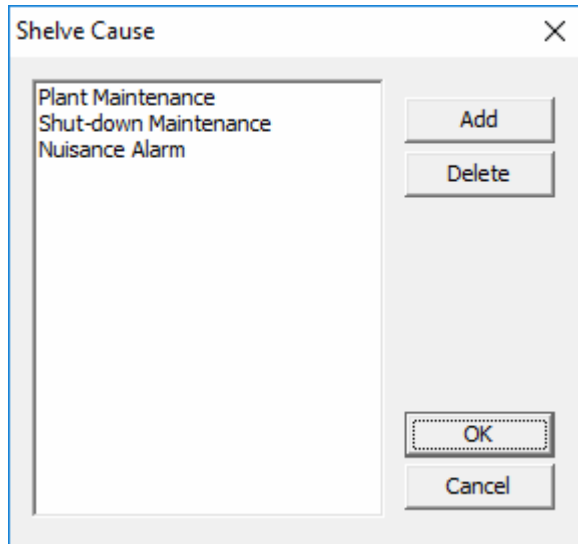

Figure 5-27 Shelve Reason
- Input self-defined shelve reason in box and click "OK" to back to the "Shelve Reason" dialog in Figure 5-27.